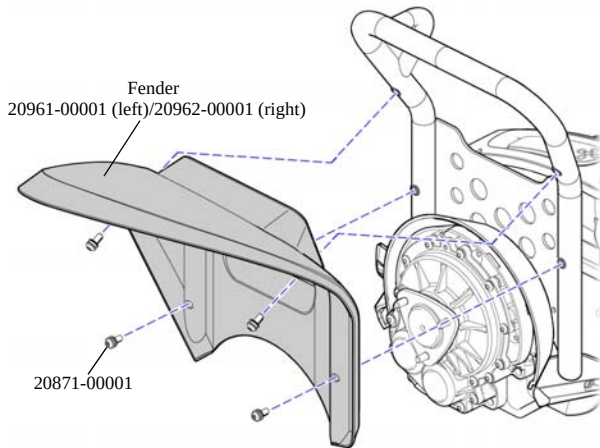

Figure 5-2: Remove or Install Fender, x2
3. Using a 4mm wrench, remove (4) button-head fasteners to detach fender from fender frame. See Figure 5-2.
4. Using a 4mm wrench, drive (4) button-head fasteners (20871-00001) until seated. Tighten one-half to one full turn. See Figure 5-2.